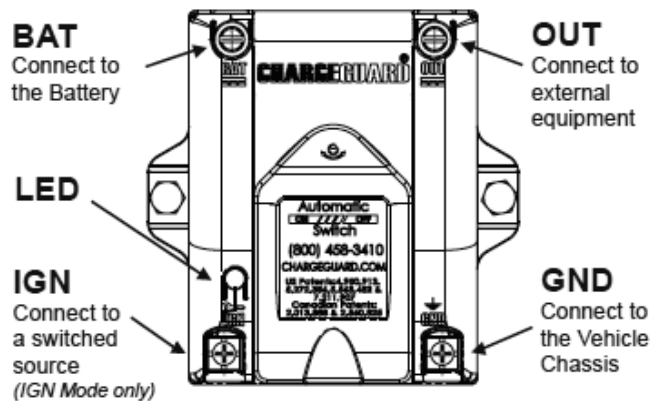

Figure 5-4 Charge Guard Guide
1. Use a minimum of 14 gauge wire for both Positive and Negative wires to ensure low impedance. See Figure 5-4.